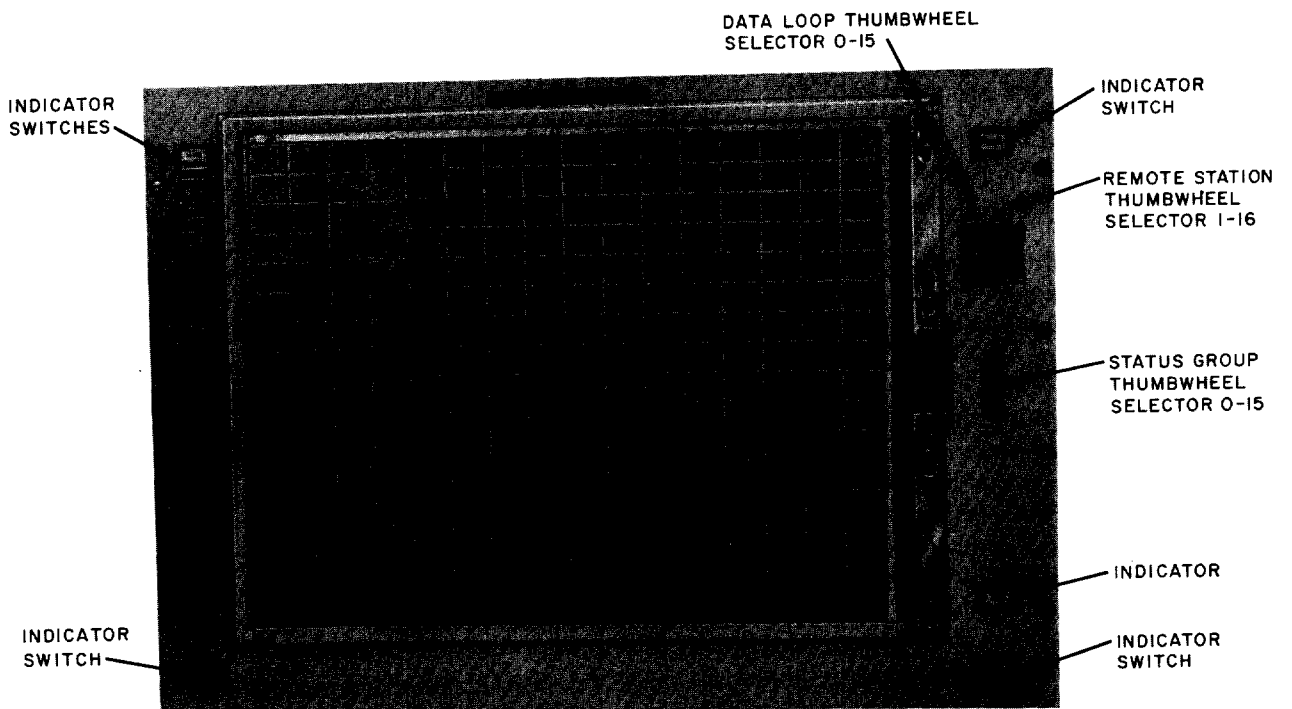

Fig. 3—Group Report Panel
1.06 The group report panel (Fig. 3) is used to manually select a remote station and to request a complete status group report. The entire group report is displayed on the panel for analysis.